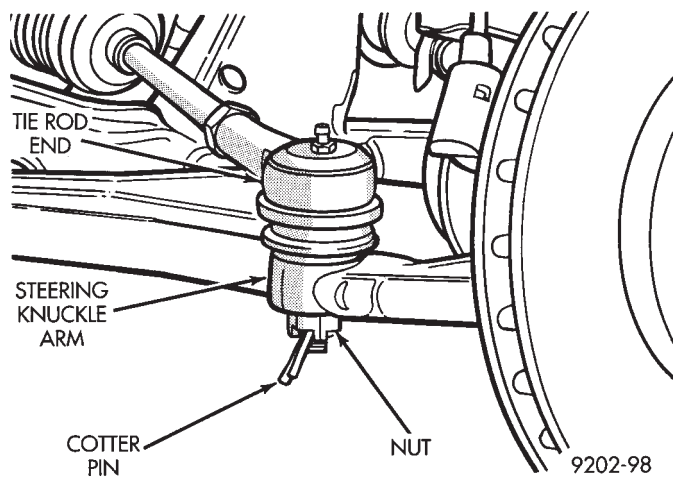

Fig. 15 Install Tie Rod End
(7) Install tie rod end into steering knuckle arm (Fig. 15). Tighten tie rod to steering knuckle arm attaching nut to 47 N•m (35 ft. lbs.) torque and install cotter pin.